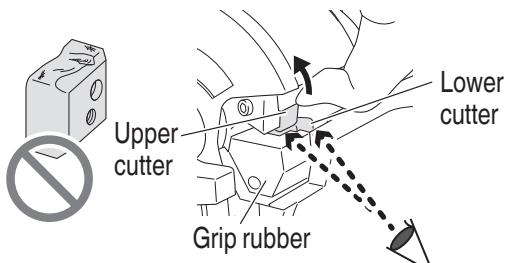

Fig. 24
(6) Check for abnormalities such as wear, deformation or breaks in the cutter. **(Fig. 24)**